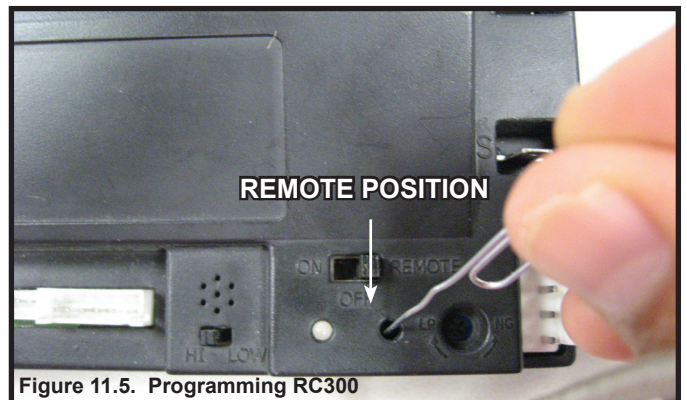

Figure 11.5. Programming RC300
- Verify the ON/OFF/REMOTE switch is in the REMOTE position. Green LED light will blink three times and wall switch will beep once 5 seconds later when ready. See Figure 11.5.
- Using a small item (such as a paper clip) press and release the LEARN button located near the ON/OFF/REMOTE switch. See Figure 11.5.